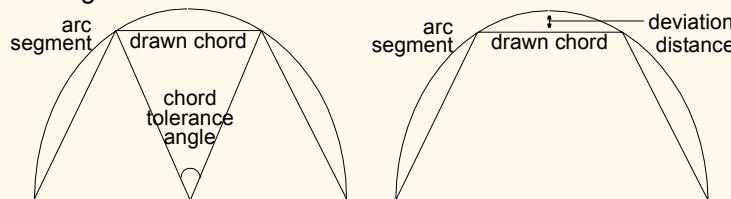

Figure 70. Chord Tolerance Mode
- 0 Sets the chord tolerance mode to *chord angle*, which specifies, in degrees, the maximum angle created when lines from each end of the chord intersect the center point of the circle. When chord tolerance is specified as a chord angle, a circle or arc will have the same number of chords, regardless of its size. See the left-hand side of Figure 70.
- 1 Sets the chord tolerance mode to *deviation distance*, which specifies, in current units, the maximum distance between the chord and the arc segment it represents. When you specify a deviation distance, the number of chords in a circle will vary with its size. See the right-hand side of Figure 70.